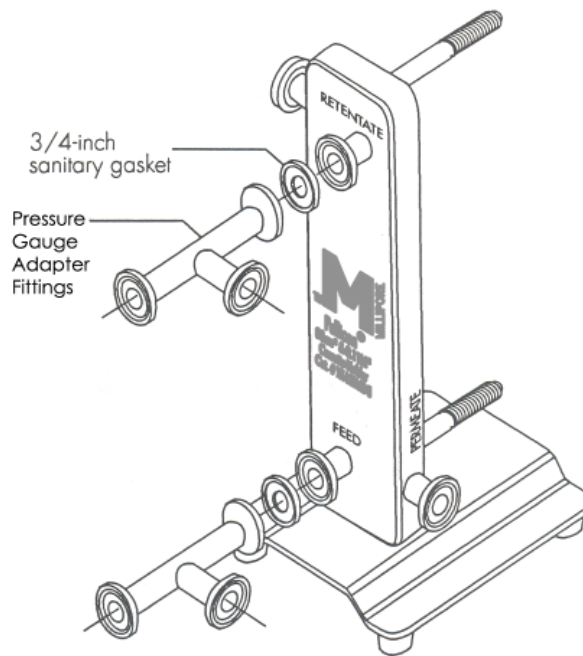

Figure 5: Installing the Gasket and Positioning the Pressure Gauge Adapter Fittings
2. Hold the sanitary gasket in place and press the pressure gauge adapter fittings flange against the FEED fitting flange so the fitting branch is parallel to the holder case and oriented as shown in Figure 5.